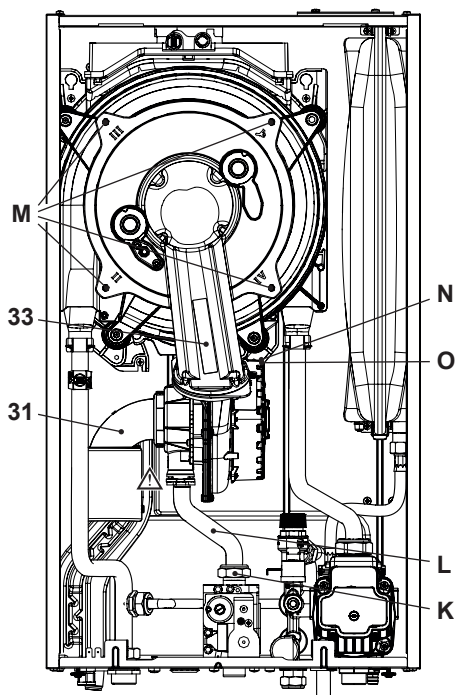
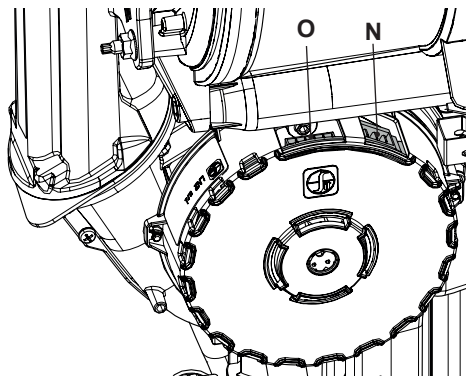

Fig. 10.10
Fig. 10.11
Removing the fan burner unit 33 in Fig. 10.10.
- Disconnect the fan connector "N" by pulling it (Fig. 10.10 - Fig. 10.11).
- Disconnect the fan connector "O" by pressing the plastic hook positioned at the bottom part of the connector (Fig. 10.10 - Fig. 10.11).
- Unscrew screws "M" and remove the fan burner unit 33 (Fig. 10.10).